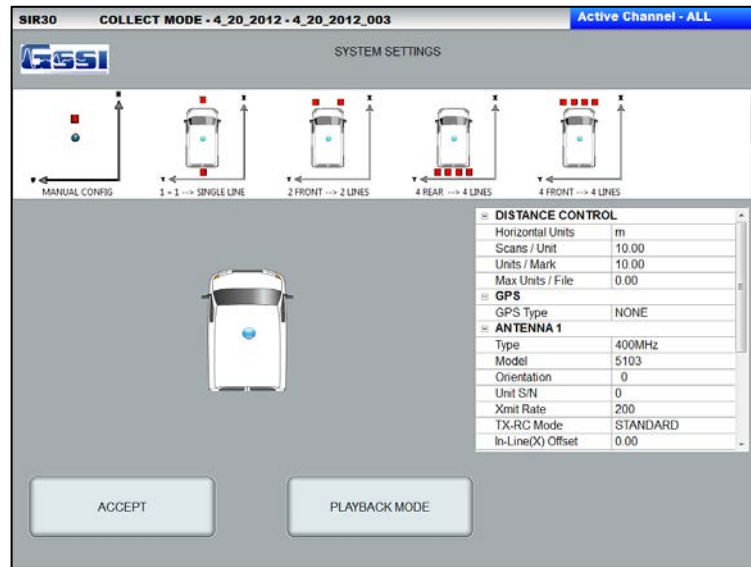

Figure 90: System Settings.
- 1 After the User has selected the desired linear units, the SIR 30 will display the System Settings menu shown in Figure 90 below. Here, the User may enable hardware channels and specify the antenna type(s), as well as specify the location of the GPS antenna relative to the GPR antenna(s). In this menu, the User will also specify parameters such as horizontal scan density (SCANS/UNIT) and Units per Mark (UNITS/MARK) and file size.
- 2 Distance Control:** The User should enter the desired horizontal scan density and mark spacing. In Figure 90 (above), the option shown is 10 Scans per Meter, 10 Meters per mark.
- 4 Max Units/File:** This is the total expected length of the data file in distance units. If the User knows what the file length will be prior to data collection, enter the value here. If the User leaves the value at zero (0), the system will reserve a default file size of 5 GB per channel. The User can use the SIR 30 Calc utility to determine this value.